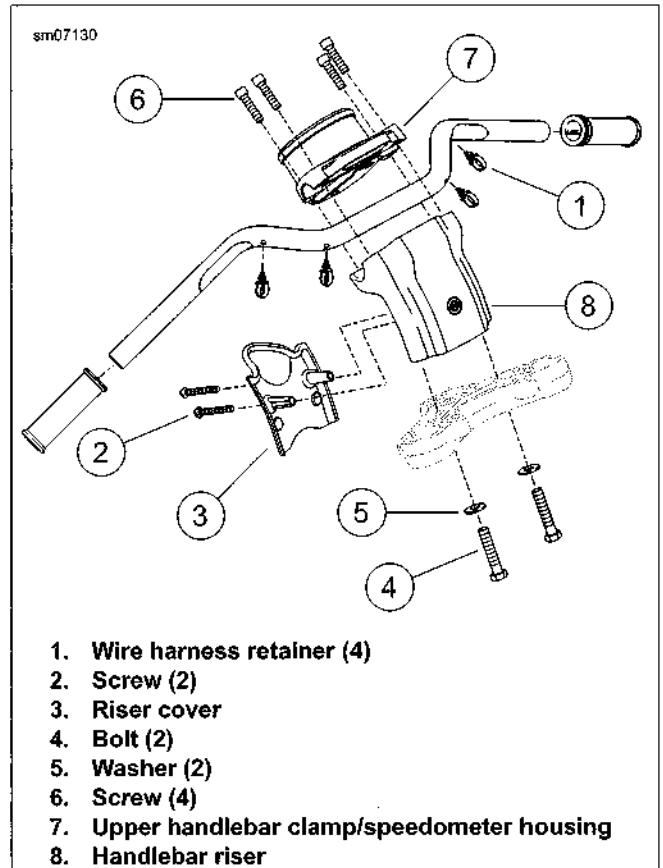

Figure 2-128. Handlebar: XL 1200C/CP Pull Back
1. See Figure 2-128. Remove four wiring harness retainers (1). Discard retainers.
3. Remove two screws (2) and riser cover (3).
4. Remove four screws (6) and upper handlebar clamp/speedometer housing (7). Detach handlebar from riser.
6. If removing riser (8), remove bolts (4), washers (5) and riser from upper fork bracket.
Pull back: See Figure 2-128. See **Removal, XL 1200C.**